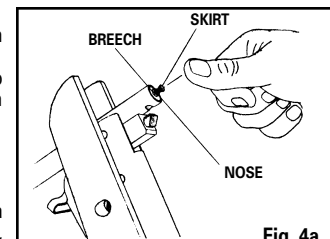

Fig. 4a
- With the barrel in the open position, place one pellet, nose forward, into the breech (Fig. 4a). Make sure that the skirt of the pellet is flush with the face of the breech.